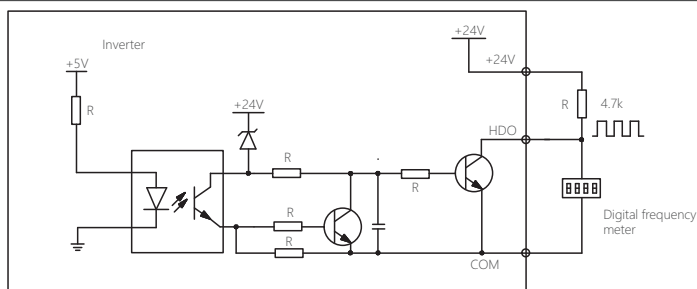

Figure 5-9 Wiring method 1 of output terminal HDO
a) HDO is used as digital pulse frequency output. It can use the internal +24V power of the inverter. See Figure 5-9 for wiring method